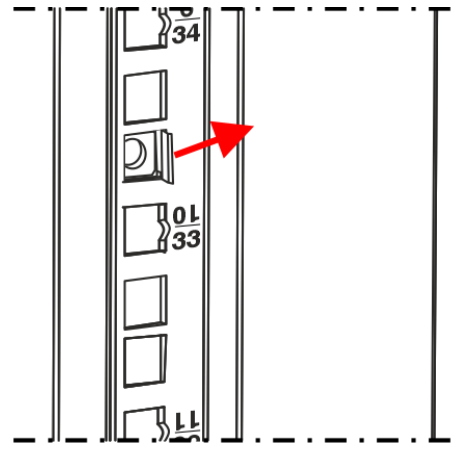

Fig. 27
- 02) Insert one side of the **cage nut (A)** into the vertical bracket, as shown in Fig. 27.